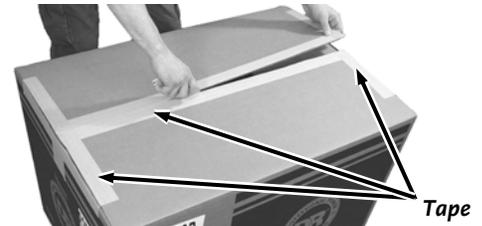

Figure 2
1. Position the Shipping Box at floor level in a clean flat area with the text on the side of the Box right side up (**Figure 2**).